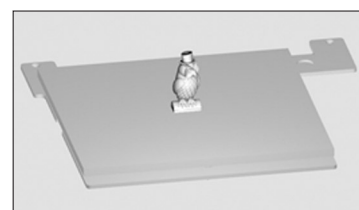

Fig. 63
3. The file will appear in the middle of the bed in the software. (Fig. 63)